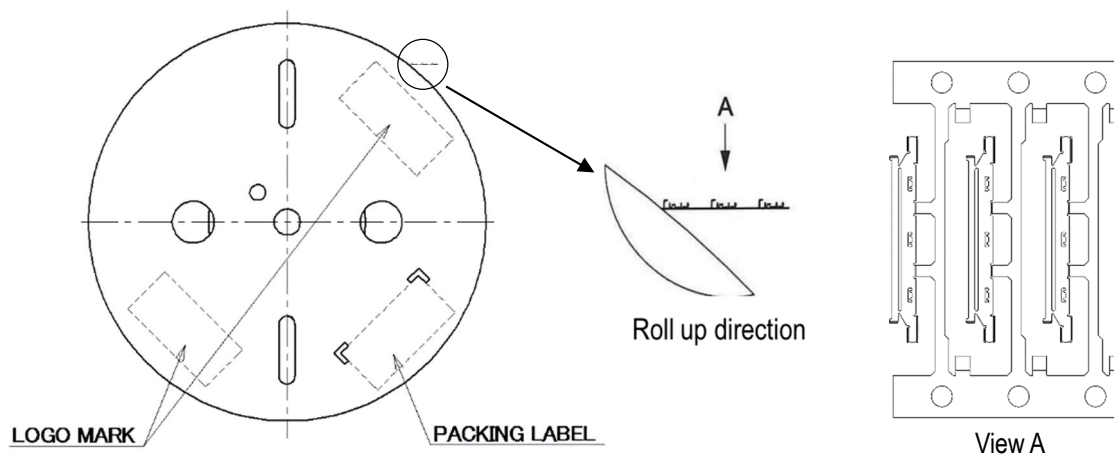

Fig.1
- (1) Coiling of shell to reel follow as shown Fig.1.
- (2) Coiling quantity. is 10,000 in reel.